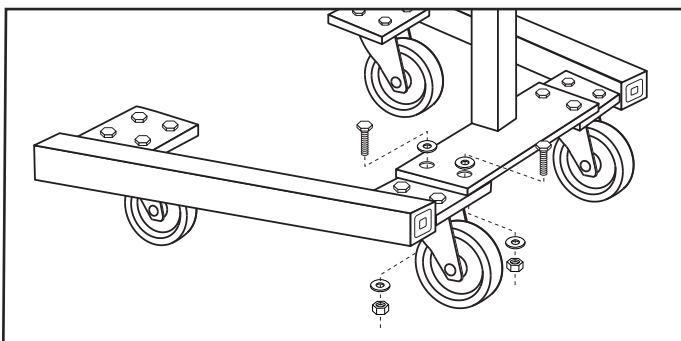

Figure 2
2. Use two (2) bolts on each side to secure post to leg assembly. (See Figure 2)